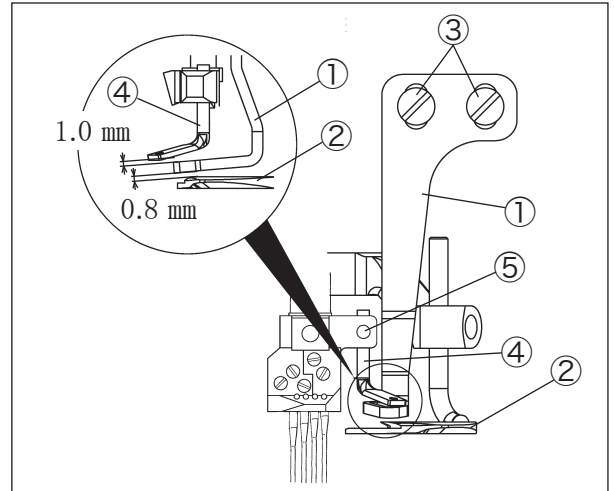

Fig. 6-34
Provide a clearance of 1.0 mm between the top of the top cover thread guide ① and the bottom of the top cover thread eyelet ④ when the needle bar is at the lowest point (Fig. 6-34), and tighten the screw ⑤ so that the center of the thread hole in the top cover thread eyelet ④ is positioned along the extension of edge “b” of the hole of the top cover thread guide ①.
* Adjust the spreader ②, top cover thread guide ① and top cover thread eyelet ④ to suit the thread to be used.